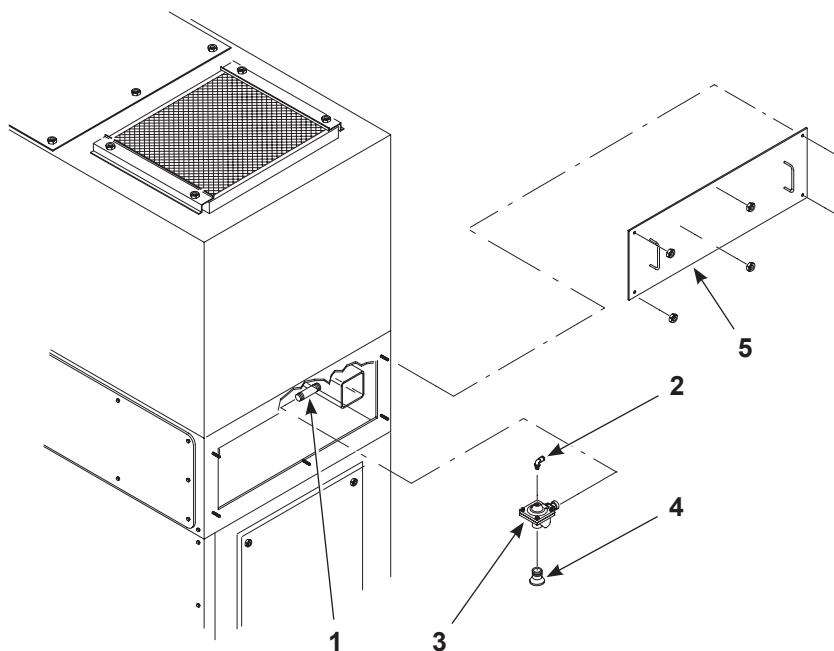

Figure 8-20 Pulse Valve Replacement
2. See Figure 8-20. Remove the pulse valve access panel (5).
3. Disconnect the air tubing from the pulse valve's elbow fitting (2).
4. Unscrew the pulse valve (3) from the nipple (1).
5. Remove the nozzle (4) and elbow from the pulse valve.